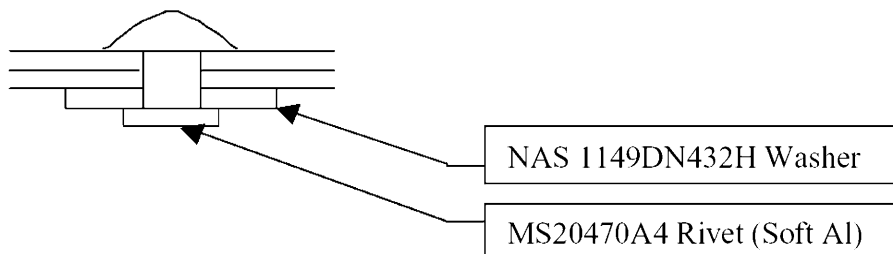

Figure 4-10a. Metal Wire Stitching Repair
4-57a. METAL WIRE STITCHING REPAIR. (See Figure 4-10a.)
- (1) Substitute two rivets in lieu of each staple where stitching was previously used or is specified. Maintain a minimum of .75 inch spacing between rivets.
- (2) When materials being joined include Stainless Steel, Galvanized Steel or Steel, use:
- (a) MS20615M4 Rivet (Monel) and NAS1149CN432R Washer (See Figure 4-10a.)
- (3) When materials being joined include only aluminum and nonmetallic materials use:
- (a) MS20470A4 Rivet and NAS1149DN432H Washer (See Figure 4-10a.)